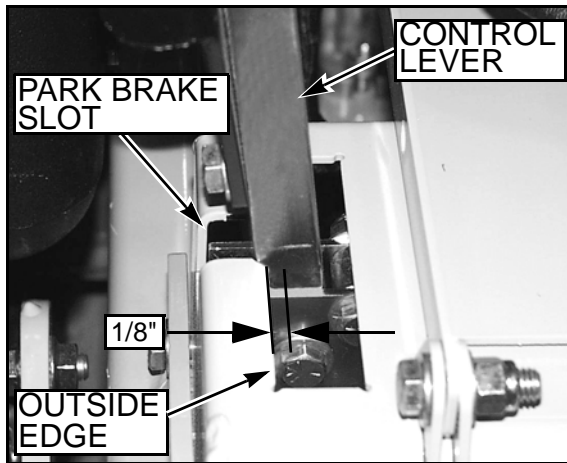

FIG. 55
5. Move the control lever to where it is just inside (1/8") the park brake slot "FIG. 55".
9. Place the control lever in the park brake slot "FIG. 55". The tire should not rotate when the control lever is in the park brake position.